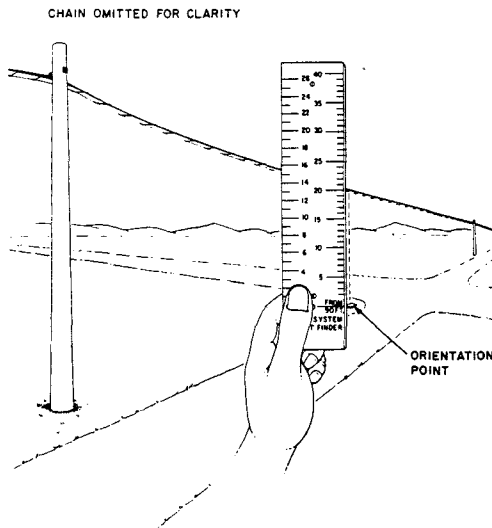

Fig. 10—Measuring Ground Clearance With B Height Finder
3.09 To measure clearance above ground, establish a point on the ground directly beneath the object being measured and place a pole stake or stick as an orientation point (Fig. 10). If the orientation point is obscured by shrubbery or brush, use a digging bar, range pole, or similar object to mark the orientation point. Measure off a 60- or 90-foot baseline and take reading as previously described. Add the height of digging bar or other object, if used, to the reading obtained.